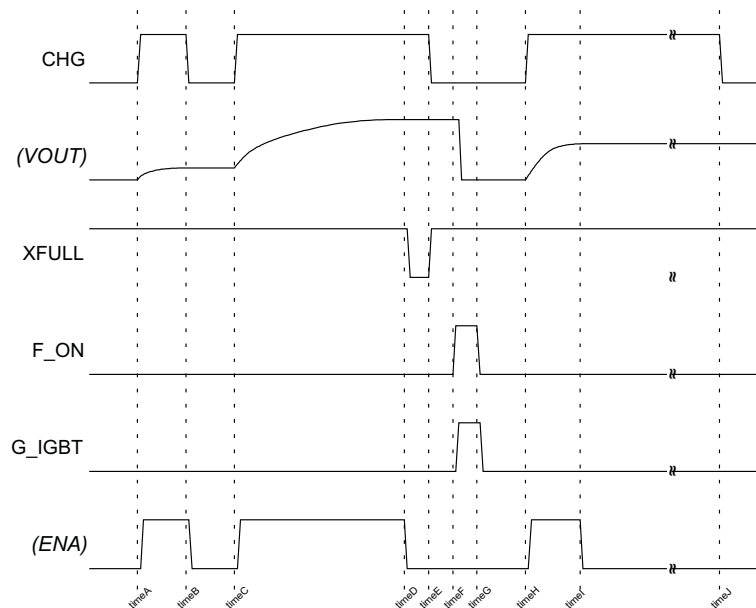

Figure 4. Whole Operation Sequence Chart
TPS65562 has one internal enable latch, F1, that holds the charge enable (ON/OFF status) of the device (see Figure 4).
The only way to start charging is to input $CHG\uparrow$ (see time A/C/H in Figure 4). Each time $CHG\uparrow$ is applied, the TPS65562 starts charging.
1. Forced stop by inputting $CHG = L$ from the controller (see timeB in Figure 4).
2. Automatic stop by detecting a full charge. $VOUT$ reaches the target value (see TimeD in Figure 4).
3. Protected stop by detecting an overcurrent function (OVDS) trigger at SW pin (see TimeI in Figure 4).
The TPS65562 provides an over voltage monitor function of the SW pin. The TPS65562 is latched off if the voltage on the SW pin is above OVDS during the switch ON time (see Figure 4 and its descriptions).